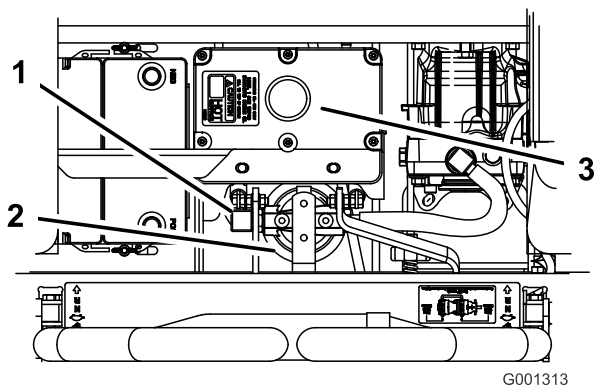

Figure 81
4. Remove the righthand hydraulic line that comes into the adapter (Figure 81).
6. Install the righthand hydraulic line to the adapter (Figure 81).